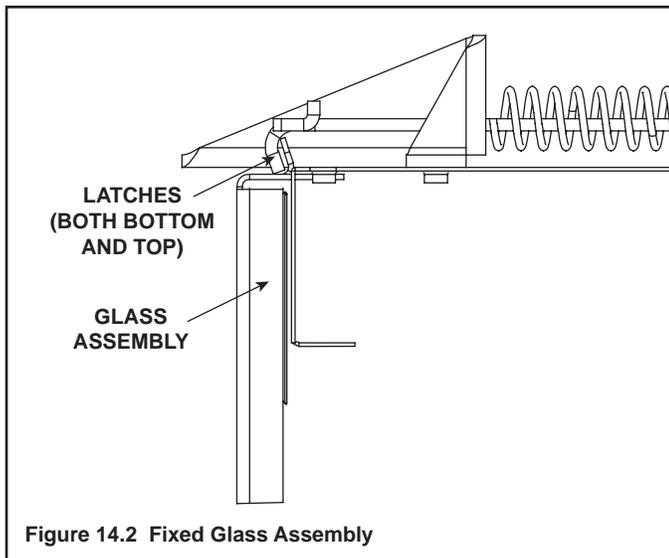

Figure 14.2 Fixed Glass Assembly
- Pull the four glass assembly latches out of the groove on the glass frame. Remove glass door from the appliance (see Figure 14.2).